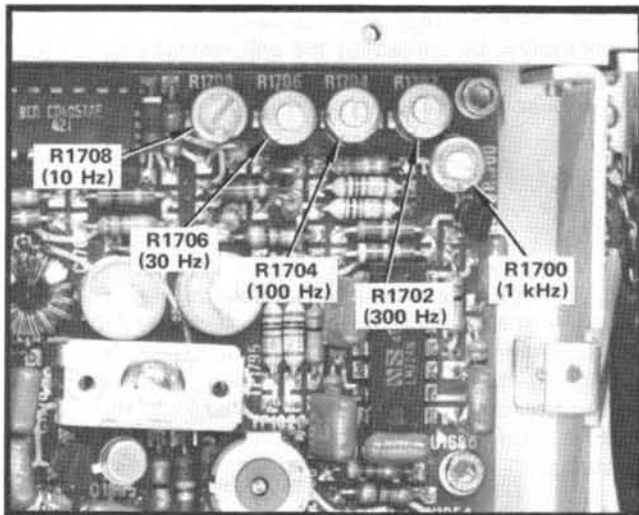

Fig. 4-18. Bandwidth adjustments for Variable Resolution Amplifier.
g. Calibrate the resolution bandwidth (6 dB down) for the 1 kHz to 30 Hz RESOLUTION positions by decreasing the resolution bandwidth and FREQUENCY SPAN/DIV settings sequentially and adjusting the respective bandwidth with R1700 (1 kHz), R1702 (300 Hz), R1704 (100 Hz), and R1706 (30 Hz). See Fig. 4-18 for adjustment locations.
h. Switch the *RESOLUTION* to 10 Hz. Adjust the 10 Hz bandwidth with R1708 (Fig. 4-18) so the bandwidth, 70 dB down, is 100 Hz \pm 20 Hz.